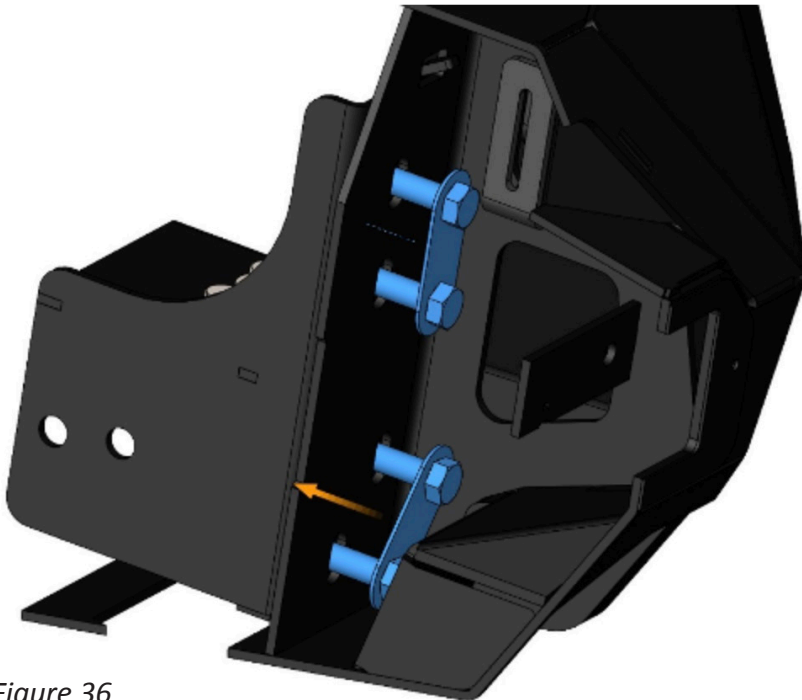

Figure 36
29. Install the four (4) provided bolt strips (Part#: 20296) inside the bumper mounts through the mounting brackets. Figure 36